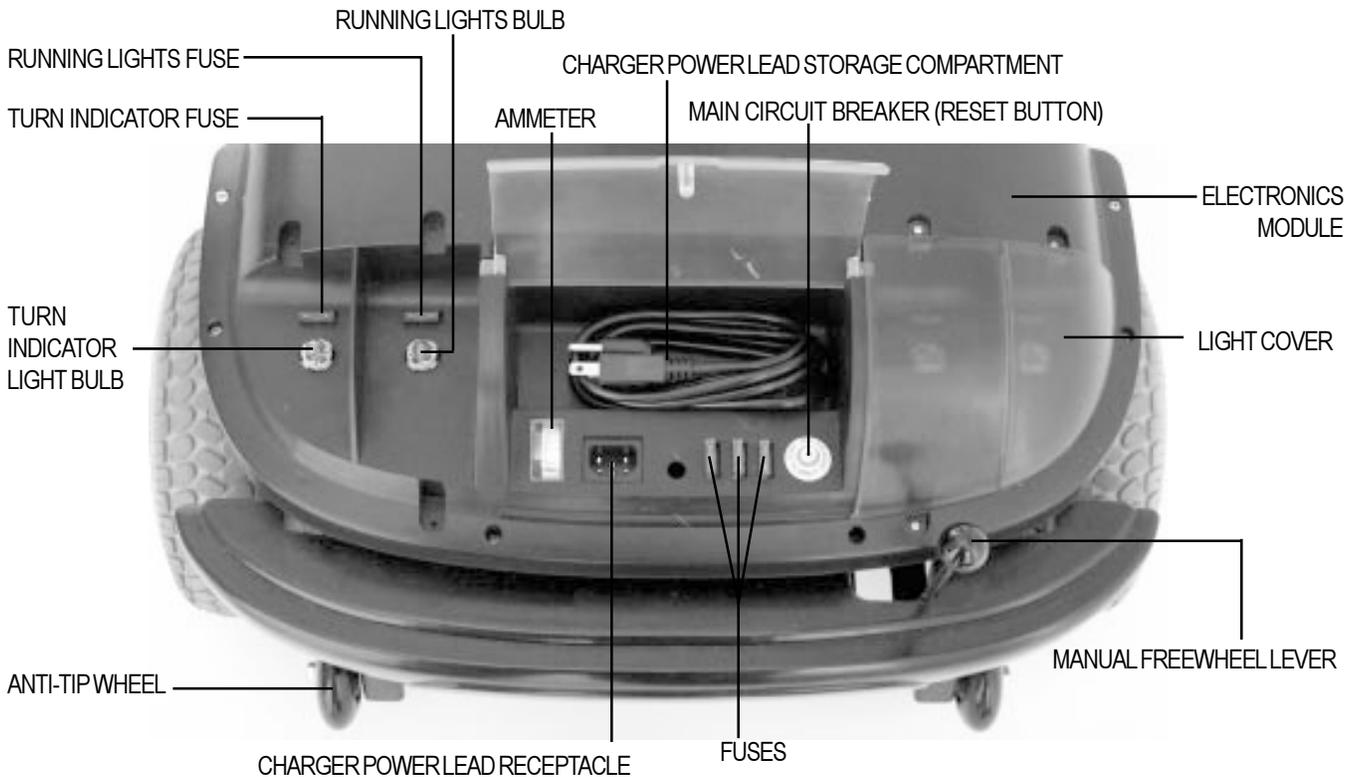

FIGURE 7. REAR SECTION (LEFT LIGHT COVER REMOVED FOR CLARITY)
The onboard battery charger (not shown), the charger power lead receptacle, the batteries (not shown), the electronics module, the main circuit breaker (reset button), the ammeter, the manual freewheel lever, the anti-tip wheels, and the motor/transaxle assembly (not shown) are located on the rear section of your Hurricane. See figure 7. Refer to VIII. “Disassembly and Assembly” for instructions on removing the rear shroud.
When the voltage in your Hurricane’s batteries becomes low or your Hurricane is heavily strained because of excessive loads or steep inclines, the main circuit breaker may trip to protect your Hurricane’s motor and electronics from damage. See figure 7.
- The manual freewheel lever is located on the end of the motor/transaxle assembly at the right rear of the Hurricane. See figure 7.
The anti-tip wheels are an integral and important safety feature of your Hurricane. Do not, under any circumstances, remove the anti-tip wheels from your Hurricane. See figure 7.